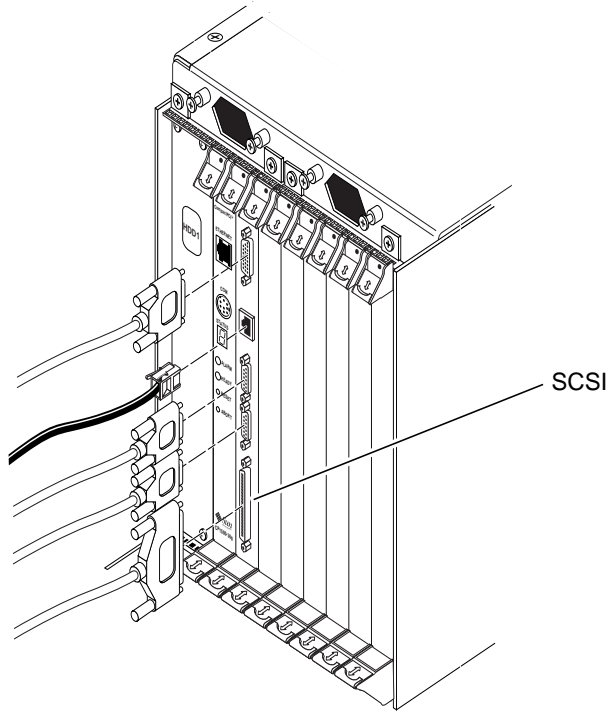

FIGURE A-1 Locating the SCSI Port on the CPU Front Transition Card (Netra ct 800 Server)
- If you have a *front-access model* Netra ct 800 server, the SCSI port is located on the CPU front transition card installed next to the CPU card (FIGURE A-1).
- If you are connecting an external SCSI device to the CPU front transition card for the Netra ct 800 server, connect the SCSI cable to the SCSI port on the CPU front transition card (FIGURE A-1).